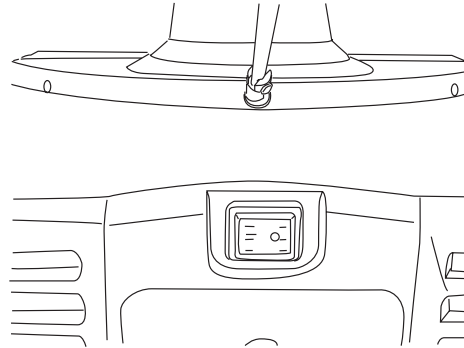

Figure 17
4. On SJ623E, the halogen light could be used to lighten the forward road in the dark by turning on the switch on the backside of snow thrower (Fig. 17).